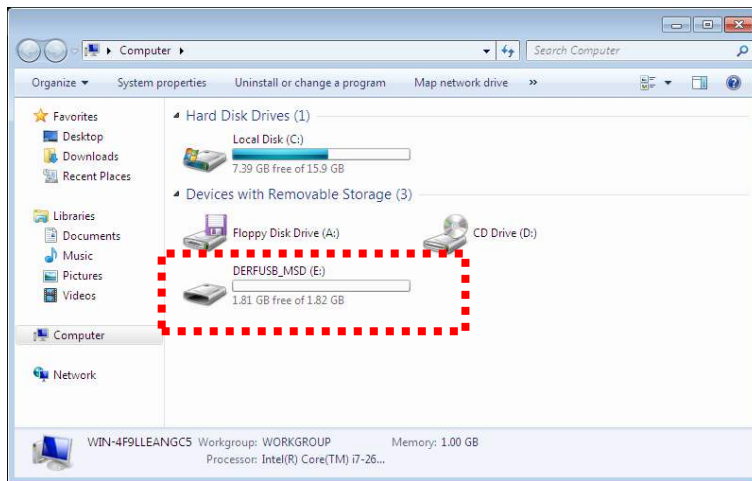

Figure 14: MSD with volume name and storage size
5. Now the MSD will be displayed correctly with its volume name and the storage size (**Figure 14**).